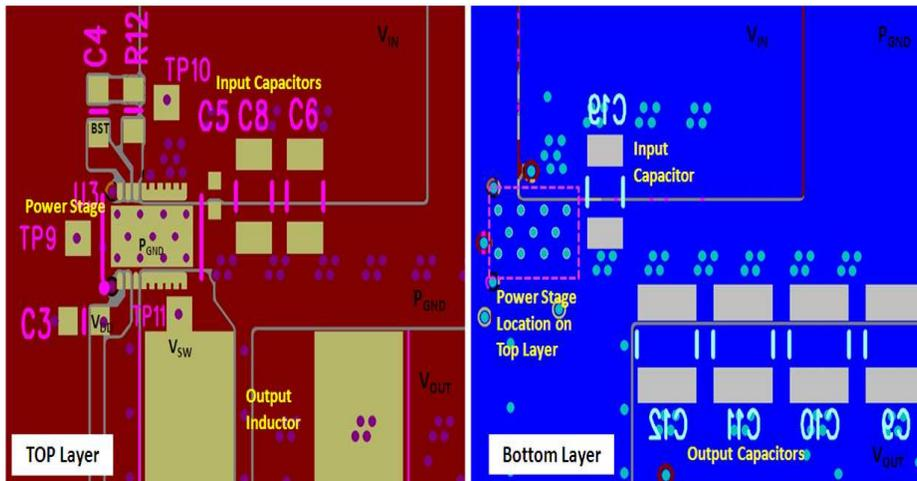

Figure 16. Recommended PCB Layout (Top Down View)
- The placement of the input capacitors relative to V_{IN} and P_{GND} pins of CSD95375Q4M should have the highest priority during the component placement routine. It is critical to minimize these node lengths. As such, ceramic input capacitors need to be placed as close as possible to the V_{IN} and P_{GND} pins (see Figure 16). The example in Figure 16 uses 1 \times 1 nF 0402 25 V and 3 \times 10 μ F 1206 25 V ceramic capacitors (TDK Part # C3216X5R1C106KT or equivalent). Notice there are ceramic capacitors on both sides of the board with an appropriate amount of vias interconnecting both layers. In terms of priority of placement next to the Power Stage C5, C8 and C6, C19 should follow in order.
- Use the smallest drill size allowed in your design. The example in Figure 16 uses vias with a 10 mil drill hole and a 16 mil capture pad.